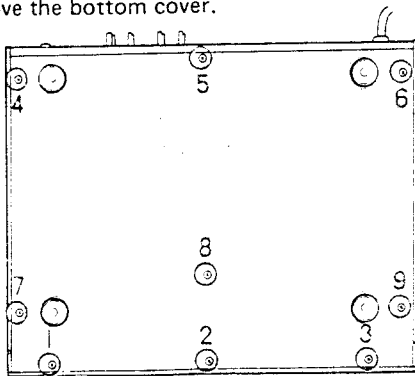
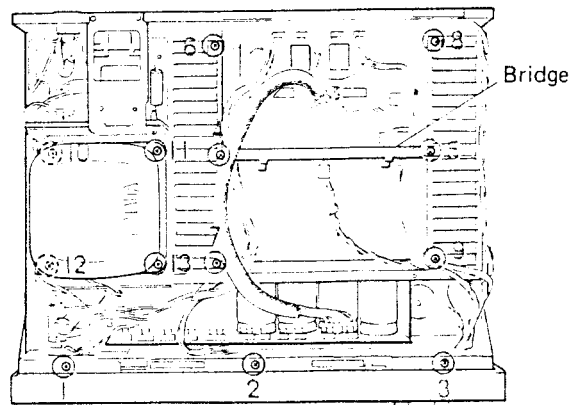

Fig. 2
Fig. 3
Remove screws ① through ⑨ in Fig. 2 and then remove the bottom cover.
- b. Remove screws ① through ③ in Fig. 3 and screws ① through ③ in Fig. 2, the front panel may be lifted out forward gently. When is performed, the illumination lamp of the power switch must be disconnected.